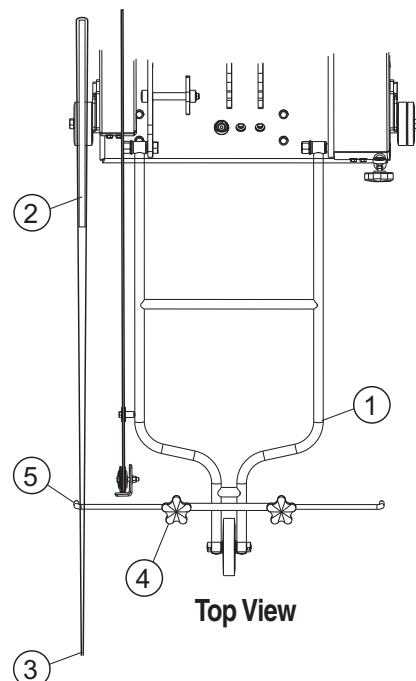

Figure 26. Adjusting the Pointer Assembly
2. Using 10-12 ft. (3-3.7 meters) of stringline, divide the length of the string in half and slide the string into one of the slots or gullets on the backside of the blade (as viewed standing in front of the pointer) See Figure 26, Item 2. Hold both ends of the string in one hand and pull the string taut (Item 3). Move your hand from side to side until both strings are touching both sides of the blade.